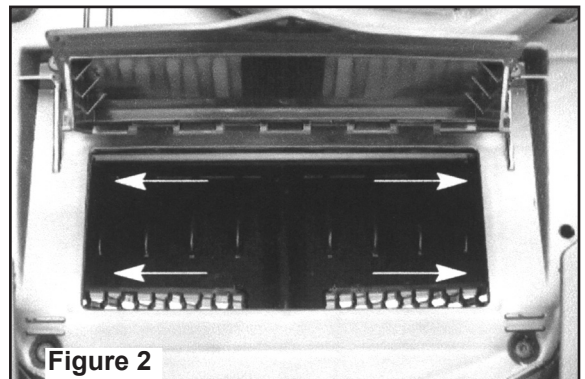

Figure 2
4. Open the radiator clean out lid and remove the four bumper screws located inside as shown in Figure 2.